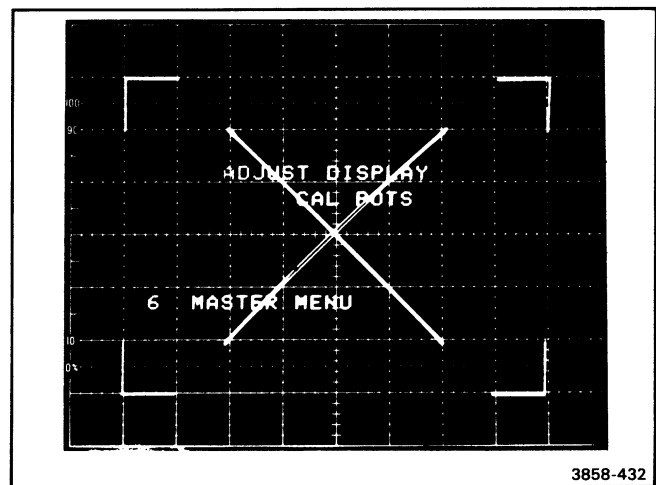

Figure 4-6. Display Adjust Pattern.
- f. While observing the DISPLAY CAL PATTERN displayed on the oscilloscope mainframe crt, use screwdriver to set VERT GAIN, VERT CTR, HORIZ GAIN and HORIZ CTR controls to place corner markers of DISPLAY CAL PATTERN on center 6 × 8 divisions of graticule, as shown in Figure 4-6.
- g. Set VECT LIN adjustment for minimum trace separation of the diagonal lines on DISPLAY CAL PATTERN as shown in Figure 4-6.
- f. While observing display cal pattern displayed on oscilloscope mainframe crt, set VERT GAIN, VERT CTR, HORIZ GAIN, and HORIZ CTR controls to place corner markers of displayed adjustment pattern on center 6 × 8 divisions of graticule, as shown in Figure 4-6.
- g. Set VECT LIN control for minimum trace separation of diagonal lines on displayed adjustment pattern as shown in Figure 4-6.